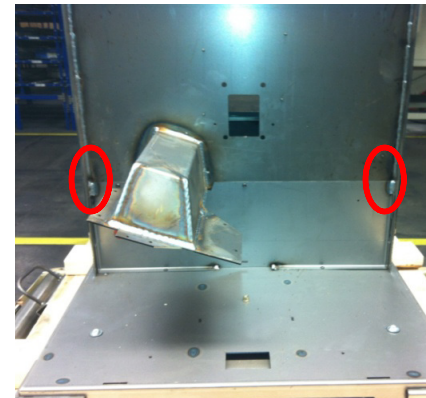

Figure 1
The target areas to be sealed at the back side of the ashpan are shown circled in red in Fig. 1*
*The unit in fig. 1 is shown without the hopper or back shield in place for reference only. The hopper and back shield do not need to be removed to perform this repair.